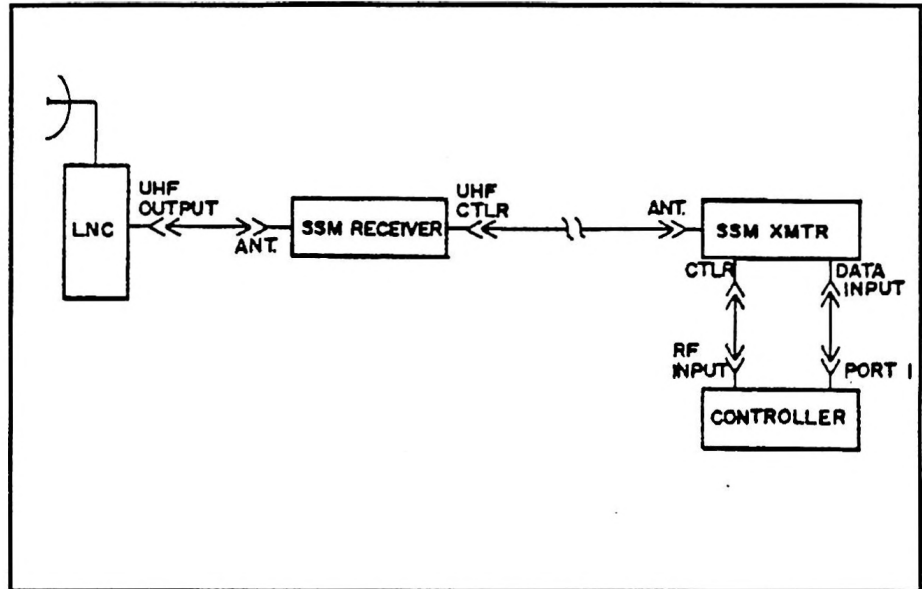

Figure 4-20. Signal Strength Meter Set-up
4. Refer to Figure 4-20 and 4-21 and connect the signal-strength meter as follows: